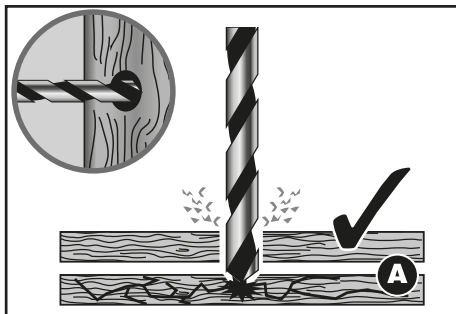

FIG. 12
9.8 DRILLING WOOD AND PLASTIC (as per section 9.2, page 13) – FIG. 12